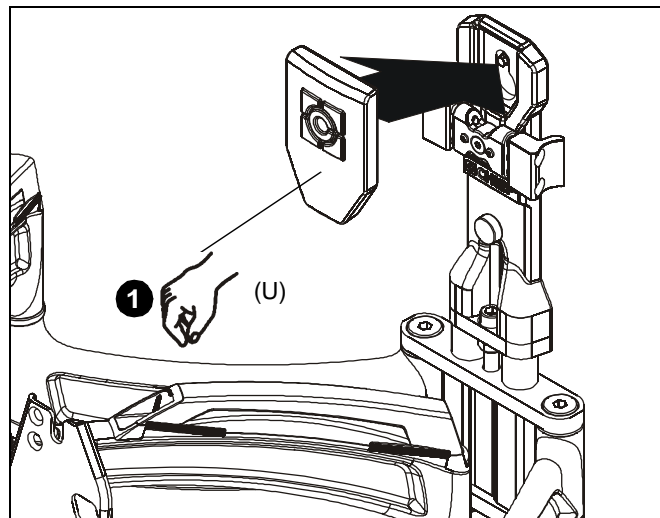

Figure 19
13. Snap lag screw cover (U) onto wall mount over top lag screw. (See Figure 19)